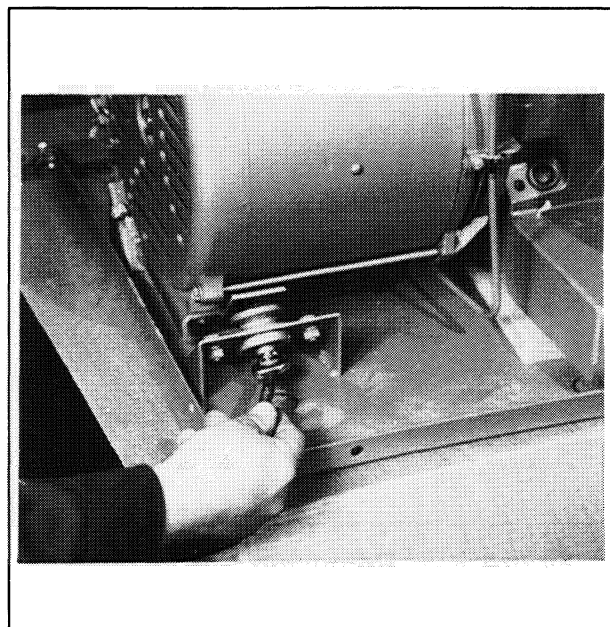

Figure 8-4. Removing Vibro-Mount Bolt
10. Remove center bolt from vibro-mounts attached to generator end bracket. See Figure 8-4.